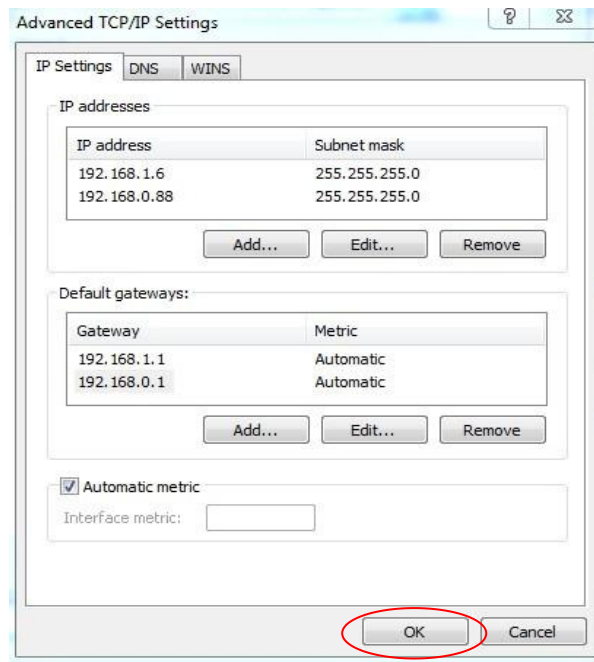

Figure 6.7
7) Click “OK”, return to IP address setting menu, then click “OK” to exit IP setting, run the corresponding server software on the computer after setting successful. (See Figure 6.7)